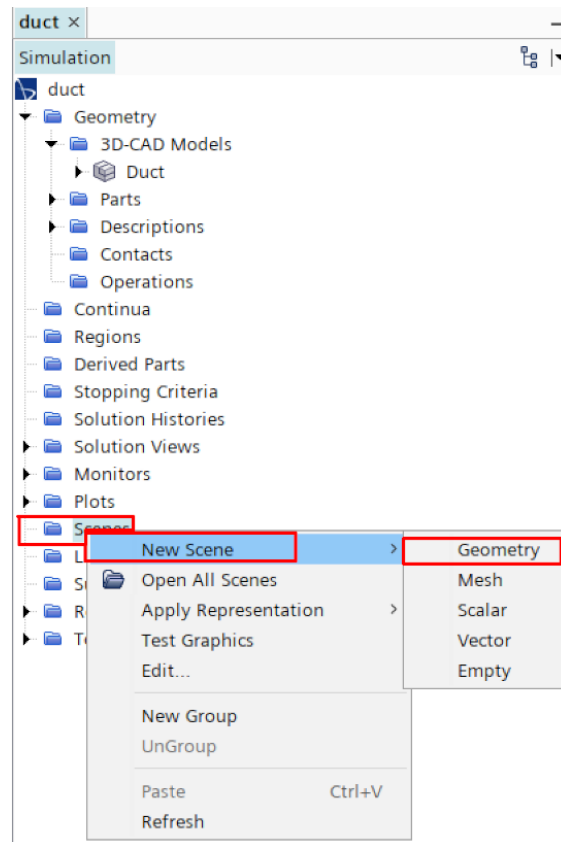

Figure 15: Extrusion of cross-section sketch in explorer window.
4. To view your geometry in the *Display Window*, right click on **Scenes** and select **New Scene → Geometry**. This is shown in the following Figure 15.